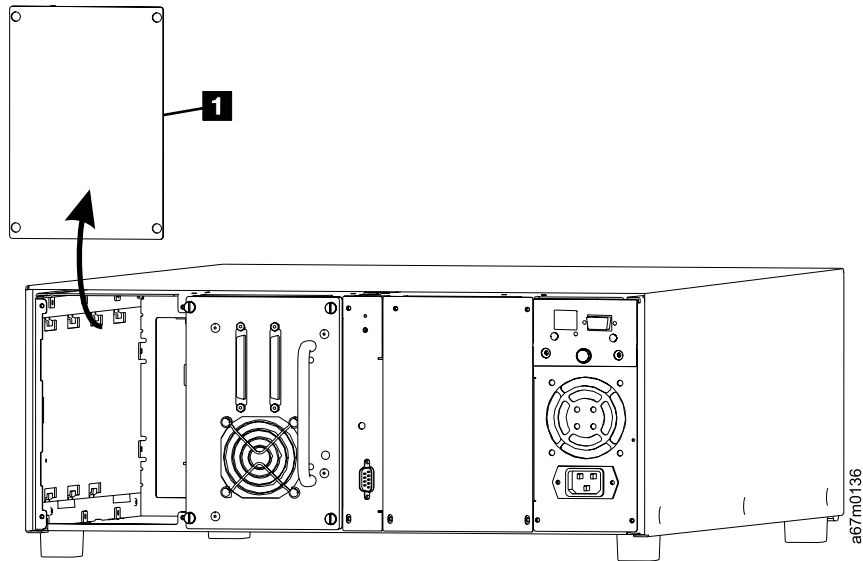
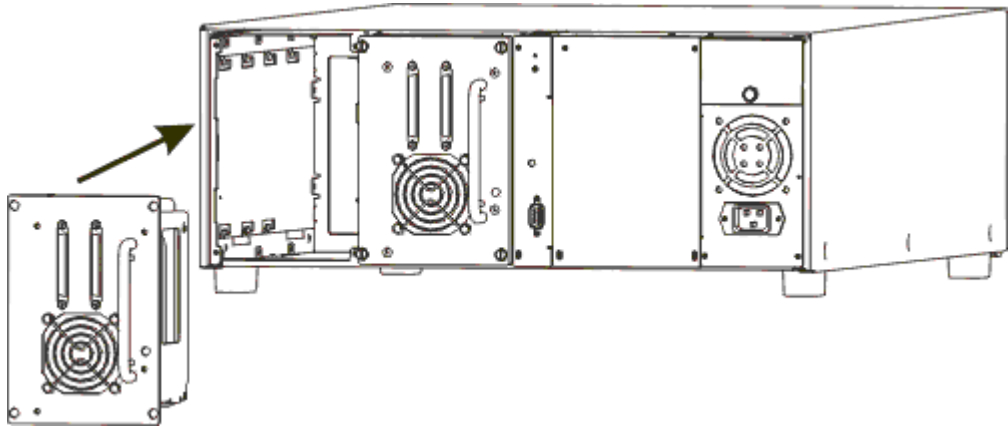

Figure 17. Drive module cover plate removal
Figure 18. Drive module installation
Note: This procedure applies for both SCSI and Fibre Channel drives. SCSI drives are shown in Figure 17 on page 28 and Figure 18 on page 28.
3. From the rear of the library, locate the available drive slot. Loosen the four thumbscrews on the cover plate and remove the cover plate. Store the cover plate (see **1** in Figure 17 on page 28) in a convenient place; it is required for proper operation and cooling of the library if you remove the optional drive.